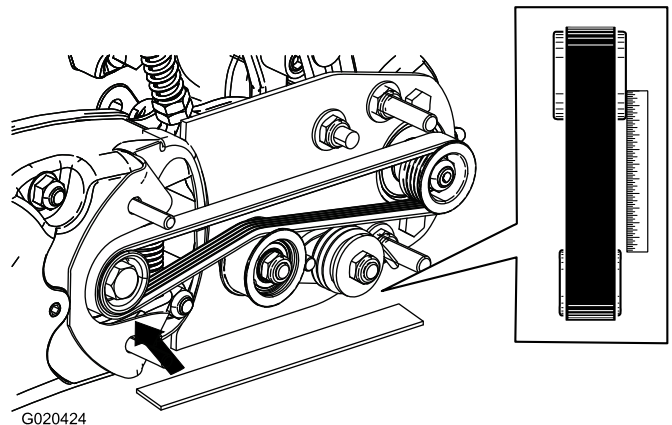

Figure 13
- A. Lay a straightedge along the outer face of the drive pulley (Figure 13). Do not lay the straightedge across both the drive and driven pulleys.